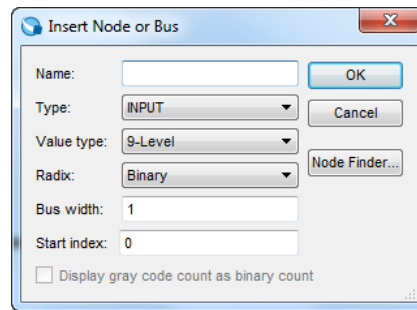
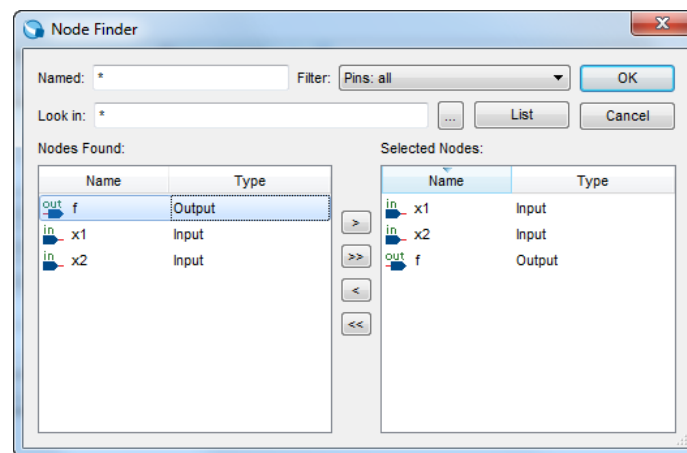
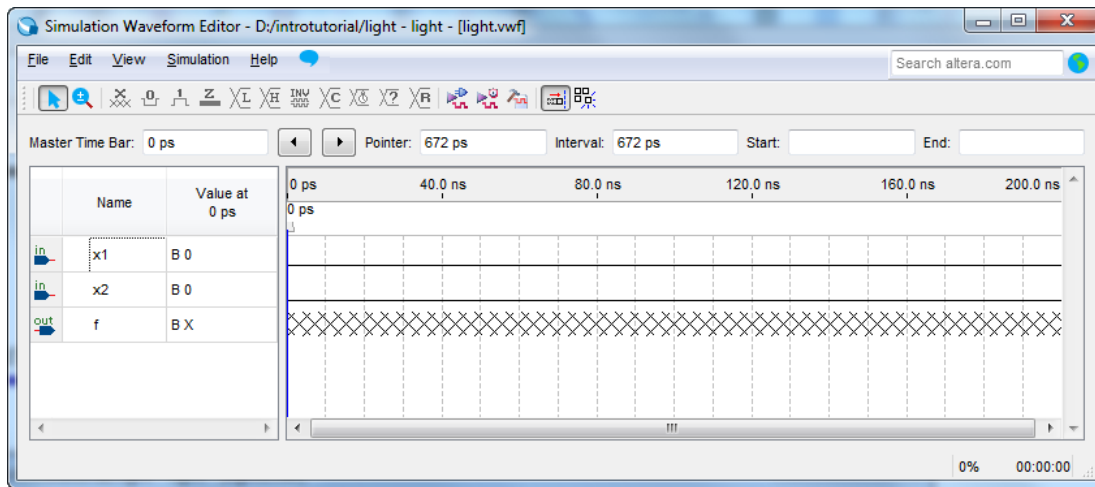

Figure 35. The Insert Node or Bus dialogue.
Figure 36. Selecting nodes to insert into the Waveform Editor.
Figure 37. The nodes needed for simulation.
- Next, we want to include the input and output nodes of the circuit to be simulated. Click **Edit > Insert > Insert Node or Bus** to open the window in Figure 35. It is possible to type the name of a signal (pin) into the Name box, or use the Node Finder to search your project for the signals. Click on the button labeled **Node Finder** to open the window in Figure 36. The Node Finder utility has a filter used to indicate what type of nodes are to be found. Since we are interested in input and output pins, set the filter to **Pins: all**. Click the **List** button to find the input and output nodes as indicated on the left side of the figure.
Click on the *x1* signal in the Nodes Found box in Figure 36, and then click the > sign to add it to the Selected Nodes box on the right side of the figure. Do the same for *x2* and *f*. Click OK to close the Node Finder window, and then click OK in the window of Figure 35. This leaves a fully displayed Waveform Editor window, as shown in Figure 37. If you did not select the nodes in the same order as displayed in Figure 37, it is possible to rearrange them. To move a waveform up or down in the Waveform Editor window, click within the node's row (i.e. on its name, icon, or value) and drag it up or down in the Waveform Editor.